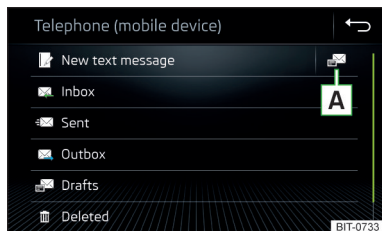

Fig. 202
- In the *Telephone* main menu, tap on the function surface  The main menu for text messages appears » Fig. 202.
- In the main menu of the text messages, tap on the function surface  interface» Fig. 202 on page 169.